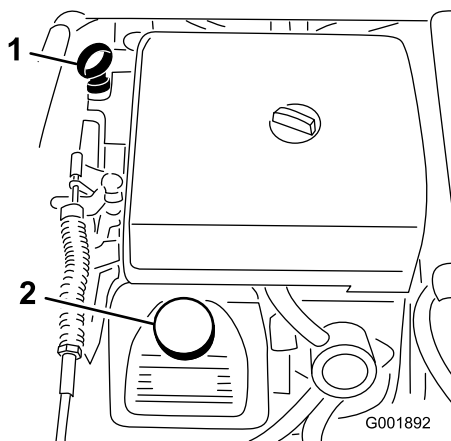

Figure 21
2. Remove the dipstick and wipe it with a clean rag (Figure 21). Insert the dipstick into the tube and make sure it is seated fully. Remove the dipstick and check the oil level.
3. If the oil level is low, remove the filler cap from the valve cover (Figure 21) and pour oil into the opening until the oil level is up to the Full mark on the dipstick; refer to Servicing Engine Oil, the Engine Maintenance section, for the proper oil type and viscosity. Add the oil slowly and check the level often during this process. Do not overfill.